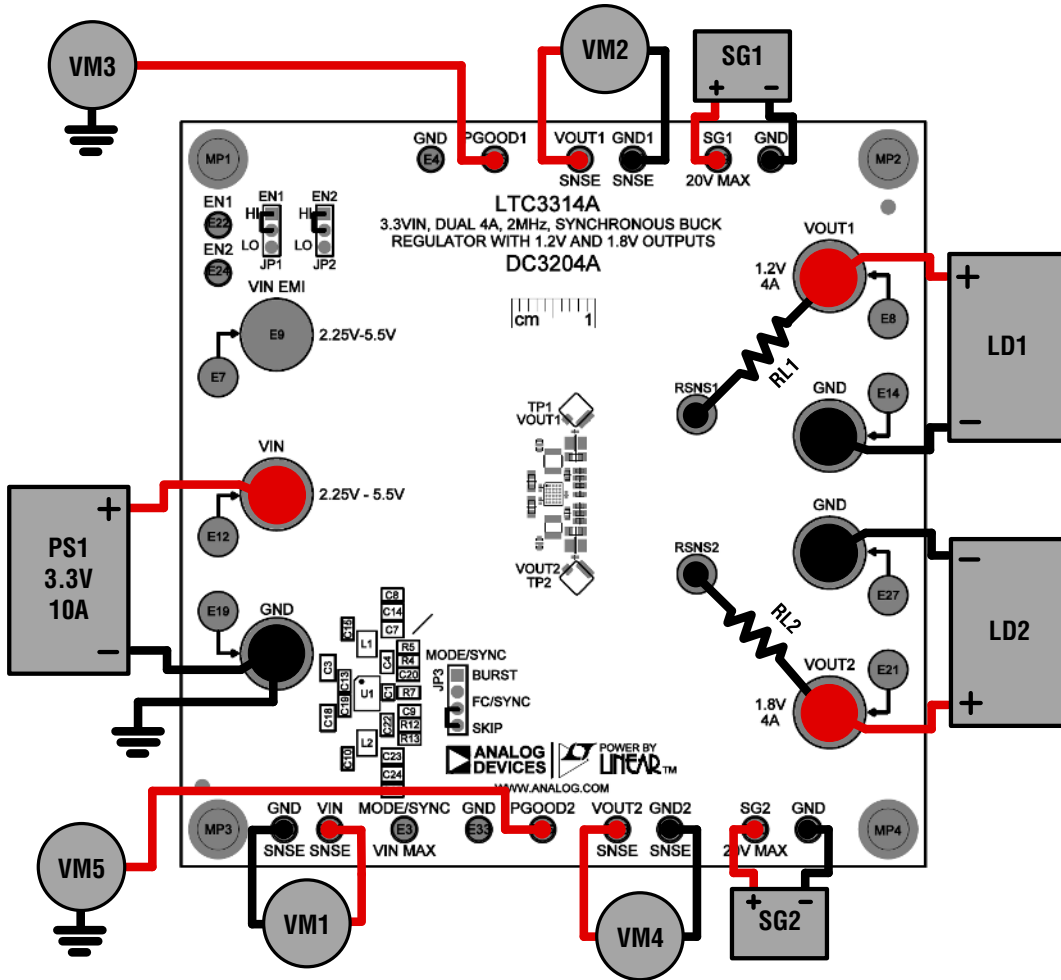

Figure 2. Test Setup for DC3204A Demo Board
Refer to Figure 2 for the proper measurement equipment setup and follow the procedure below:
1. Connect PS1, LD1, VM1, VM2 and VM3 as shown in Figure 2. If the input EMI filter is desired, connect the input power supply to VIN EMI and GND.
8. To test the transient response with a base load, add the desired resistor to produce a minimum load between VOUT and RSNS1 turrets (RL1 shown on Figure 2). Note that the total load resistance will be RL1 plus R18 (100m $\Omega$ ). Adjust a signal generator with a 10ms period, 10% duty cycle and an amplitude from 1V to 2V to start.